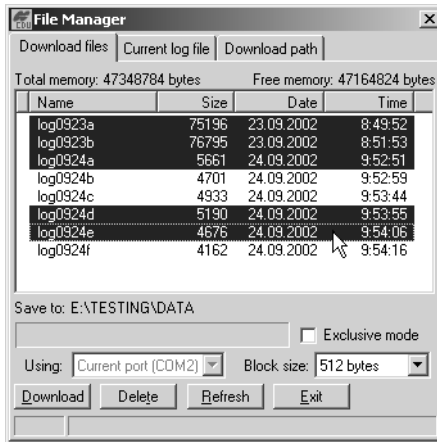

Figure 3-10. Download Files
- Select the **Download files** tab and select the file(s) to download (Figure 3-10 on page 3-13).